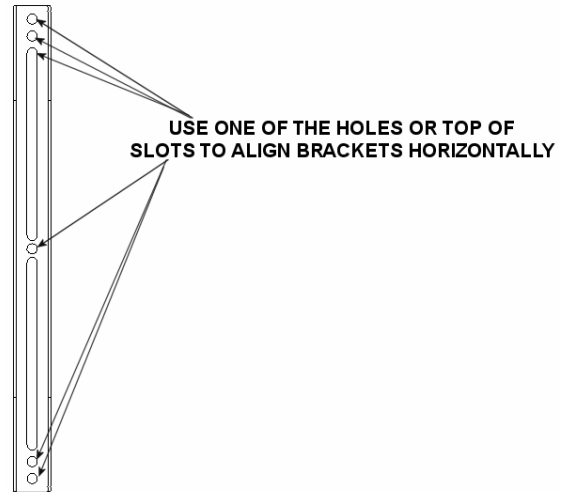
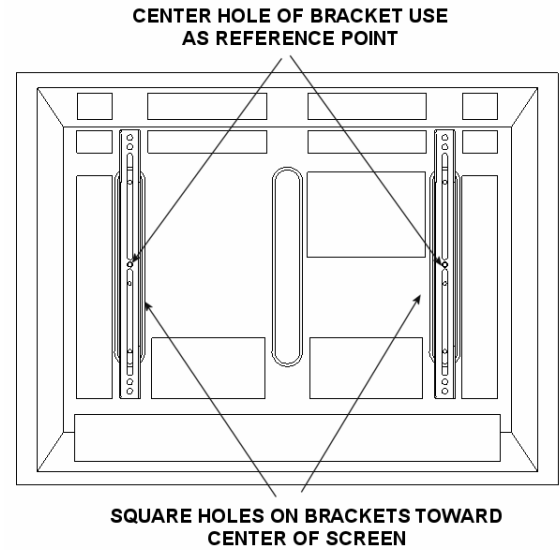

Figure 2. Place Brackets on Display
Figure 3. Align Holes
1. Place the interface brackets (20) on the back of the display, aligning one of the holes or top of the slots as a reference point to align horizontally with the square holes facing toward the center of the display (see Figure 2 and Figure 3). Spacers (170 or 180) are provided for use with recessed mounting holes or protrusions on the back of the display that prevent the bracket from laying flat on the back of the display.
2. Using spacers (170 or 180), Nylon shoulder washers (190) to electrically isolate the mount from the display, appropriate M6 or M8 screws (40, 50, 60, 70 or 80), steel washers (200) as necessary, appropriate M4 or M5 screws (90, 100, 110, 120, 130 or 140) secure the brackets (20) to the display.